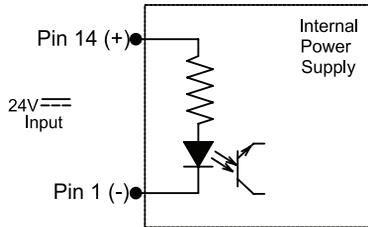

Figure 5. Alarm Output Connections
- D. **Connect Power Supply alarm output** (if used). The Remote Display Module “Alarm Output” is a standard DB25 pin connector. A maximum distance of 3 meters [10 feet] or less is recommended. The Remote Display Module alarm output provides a variety of dry relay contact outputs that indicate the status of the power supply. The relay contacts are rated for a maximum of 1A at 30V $\overline{=}$. The alarm output connector also provides a means of remote power in. (See **Figure 5**)
To ensure current carrying capacity, two pins are used for each connection. The common must be bonded to ground. Wired in this fashion, the “Power” switch on the end panel of the Remote Display Module is bypassed (see **Figure 5**).